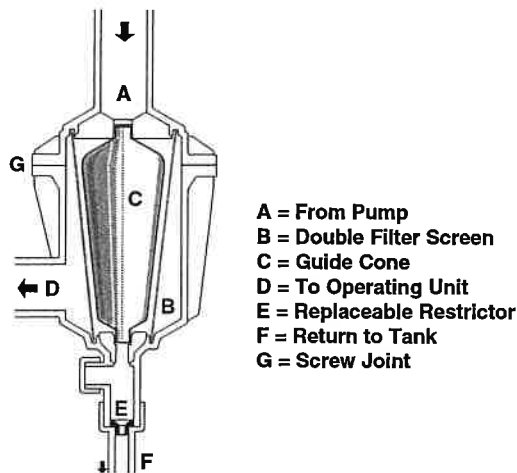

Fig 20
**IMPORTANT!** Note direction of restrictor in Fig 20.